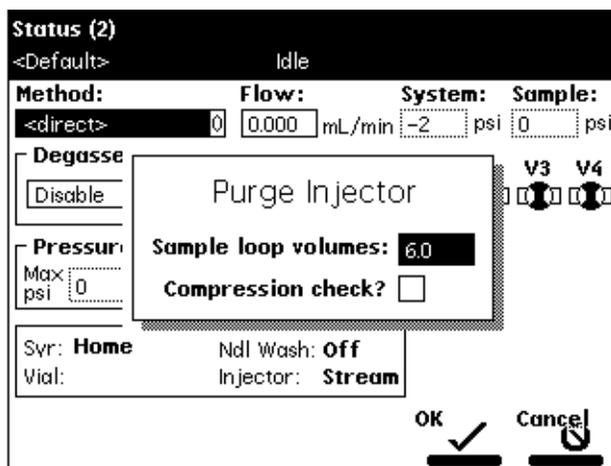

Figure 2-14 Purge Injector Dialog Box
4. Select **Purge Injector**, then press **Enter**. The Purge Injector dialog box appears (Figure 2-14).